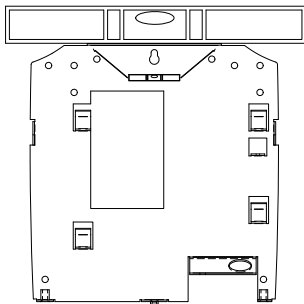

FIG. 2
2. Level the back plate and tighten the screw completely. (FIG. 2)
- Disconnect sensor from the electronic board. (FIG.2)